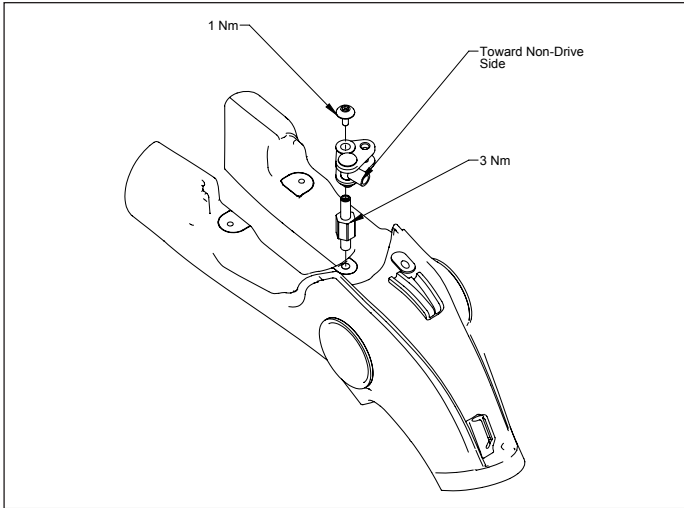

Figure 2
5. Using a deep 9 mm hex socket, install rocker pivot post; torque to 3 Nm. (Figure 2)
6. Place the rocker assembly on the rocker pivot post. Add the rocker mounting screw and torque to 3 Nm with a 2.5 mm hex key. The rocker should be aligned with the point of the triangle facing the rear and the cable stop facing the non-drive side. (Figure 2)